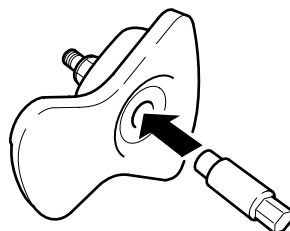

Fig. 4
- Insert the locking bolt socket key. (Fig. 4)